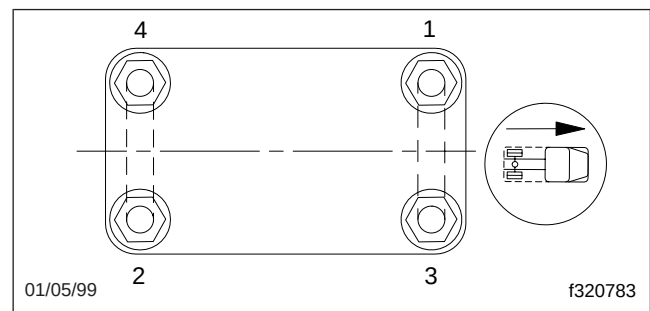

Fig. 16, Tightening Pattern for U-Bolt High Nuts
* Tighten in a diagonal pattern as shown in Fig. 16.